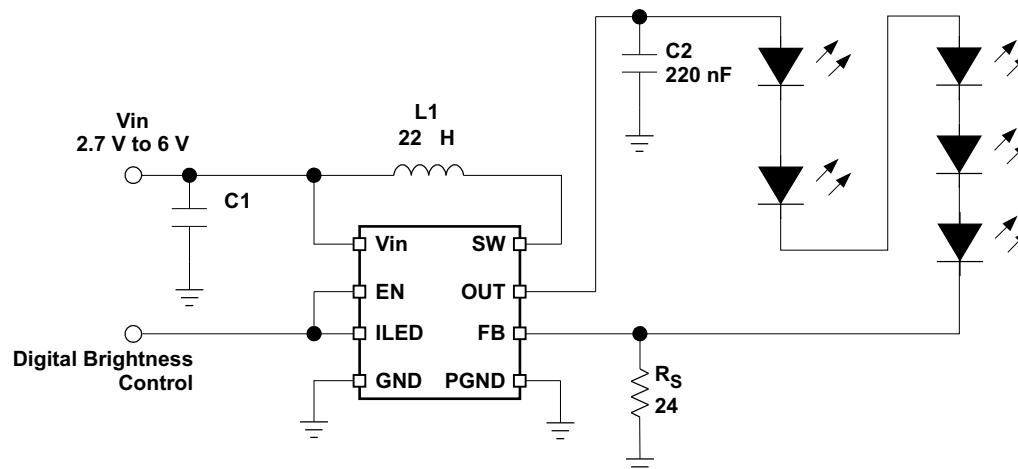

Figure 1. TPS6106x With Digital Dimming Interface
In order to implement a single-wire digital interface, the enable pin (EN) is directly connected to the ILED pin. This allows simple implementation of the digital programming and enabling/disabling of the device. Figure 1 shows a typical schematic with a single-wire digital dimming interface.